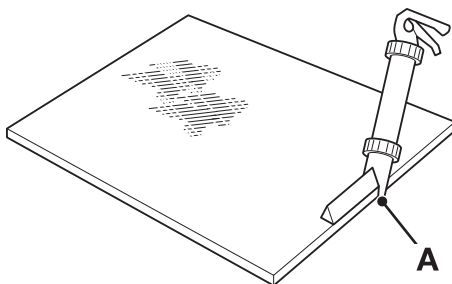

Fig 57.
- 6 Apply the pre-heated adhesive to the glass (do not start in a corner). Keep the nozzle guide **57-A** against the edge of the glass and make sure that the adhesive forms a continuous 'pyramid' shape. ⇒ Fig 57. \(□ B-55\)